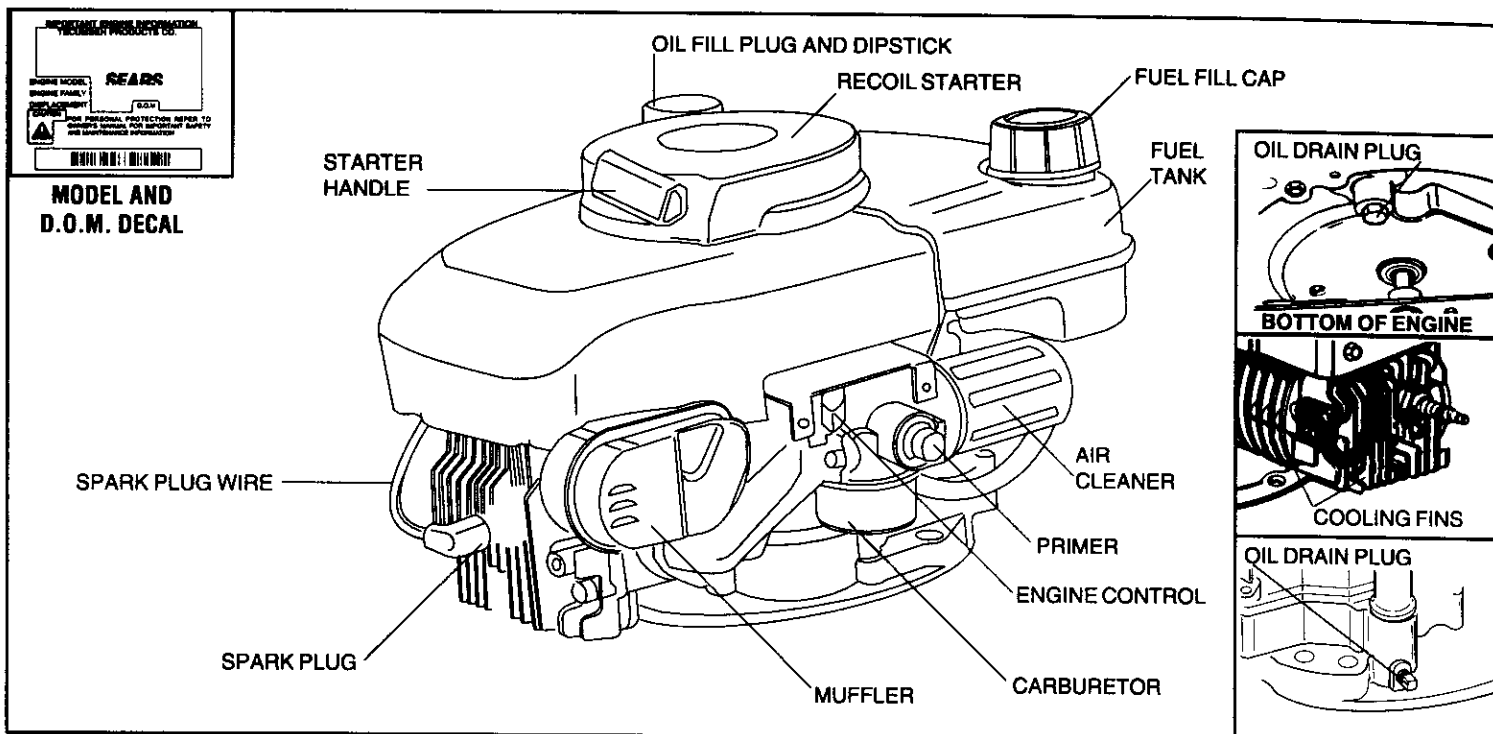

Figure 1
- Clean area around oil fill plug (see Figure 1).
- ④ **CHECK THE FOLLOWING:**
- B. Be sure spark plug wire is attached to spark plug (see Figure 1).
- ① Move ENGINE CONTROL (see Figure 1) to HI Position.
- ② **START ENGINE WITH PRIMER:**
2. The carburetor on your engine has been completely adjusted at the factory. When starting a cold engine, push primer button **firmly with your thumb 3 times**, allowing primer bulb to return completely to original position between pushes (figure 1). Below 55°F additional primes may be needed.
ENGINE SPEED: Engine speed is controlled by the ENGINE CONTROL see Figure 1).
- ① Move ENGINE CONTROL (see Figure 1) to STOP.
- ② **AFTER ENGINE IS STOPPED:**
C. Remove oil drain plug and oil fill plug to drain oil (see Figure 1).